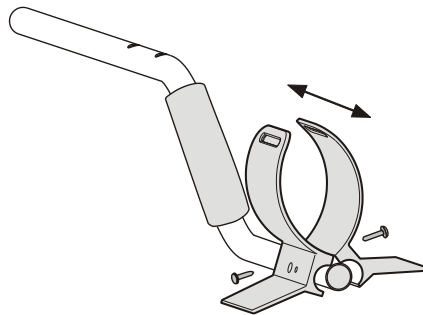

Fig5
4. The corbel has two positions. The initial corbel locates longer position. If your arms are shorter, such as women, children, you can adjust the corbel position. Please release a screw the left and right under of the corbel when regulation. So that the left and right corbels are loosen. Adjust the corbel forward to another position. And then tightened the two screws.(See fig.5)